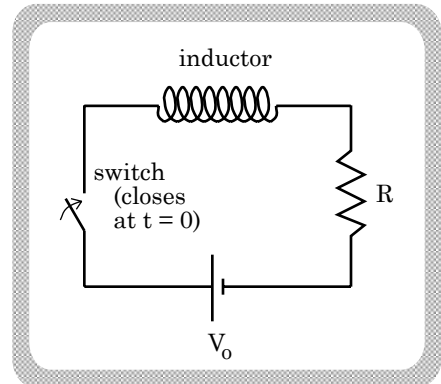

FIGURE 17.22
2.) Consider the coil, resistor, switch, and DC power supply in Figure 17.22. At $t = 0$, the switch is closed. What will the *current versus time* graph look like for this situation?